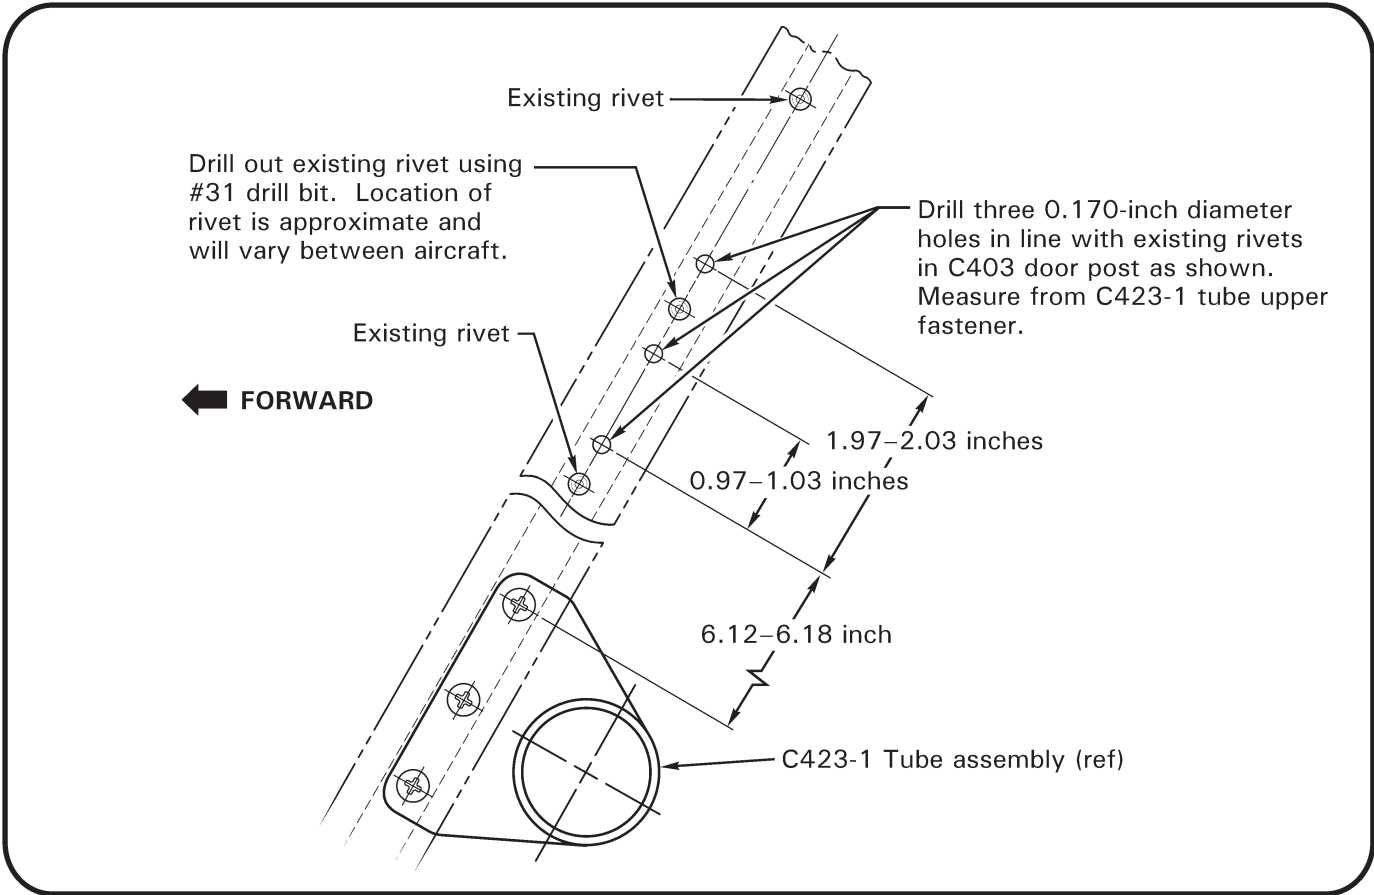
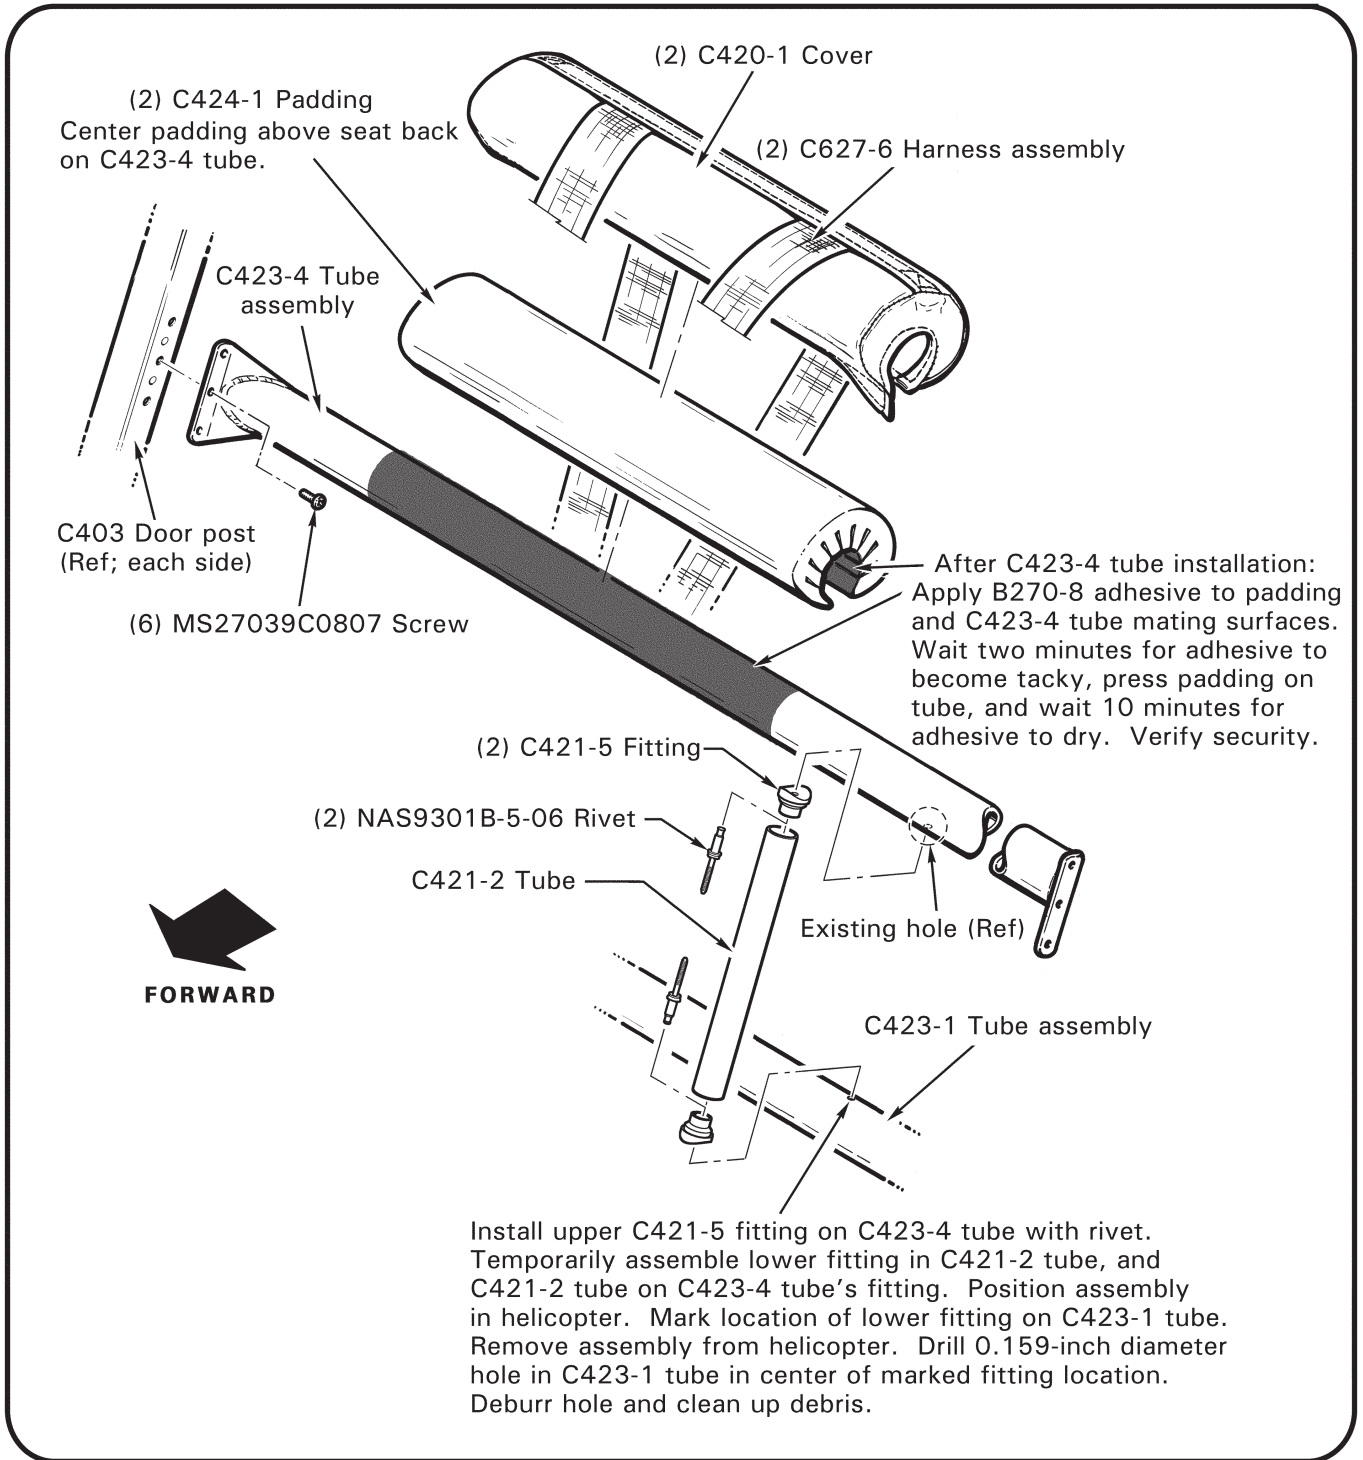
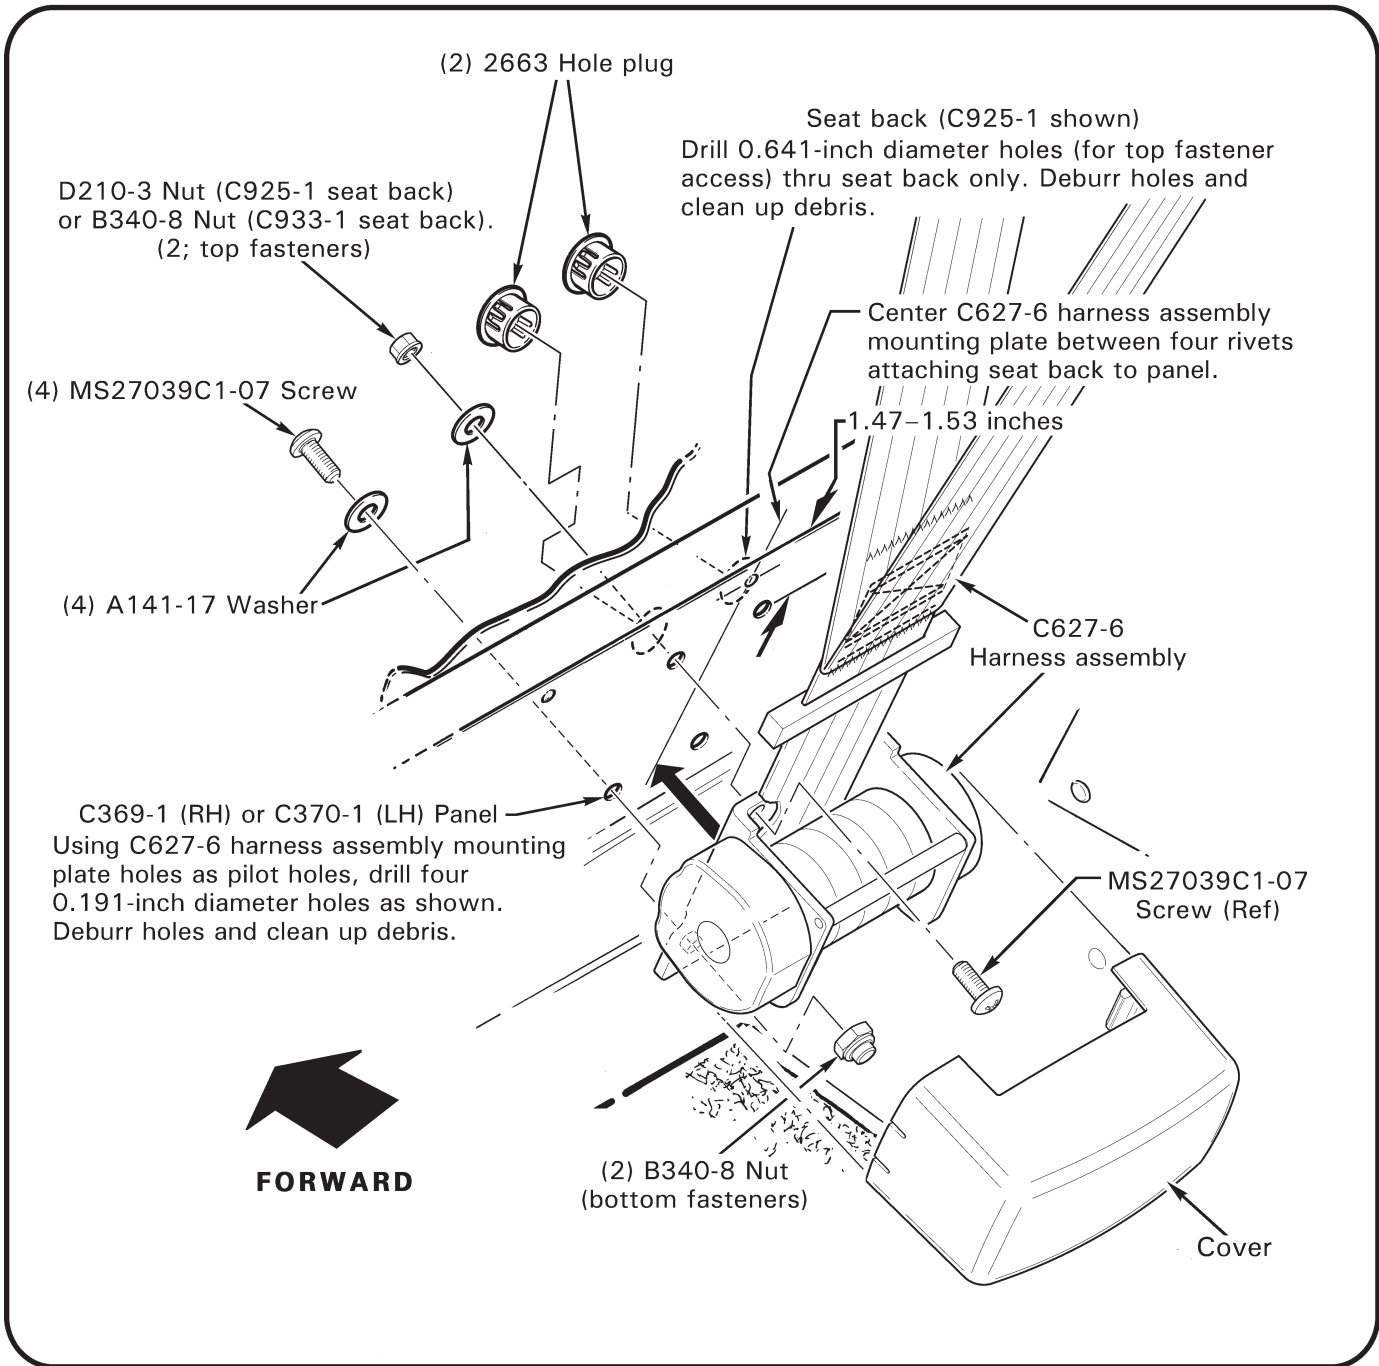

FIGURE 2
FIGURE 3
FIGURE 4
- a. Refer to Figure 2. Drill (3) 0.170-inch diameter holes thru C403 door post as shown. Using #31 bit, drill out existing rivet, leaving 0.128-inch diameter hole thru post as shown. Deburr holes & clean up debris.
- d. Install (2) MS27039C0807 screws in top and bottom post and channel holes. Remove center screw and tighten top and bottom screws. Drill 0.128-inch diameter holes thru channel as shown. Countersink 0.128-inch diameter holes 100° X 0.225-inch diameter hole thru channel as shown and install (2) NAS9302B-4-03 rivets. Remove screws and clean up debris.
- a. Refer to Figure 3. Locate existing hole on the bottom in the center of C423-4 tube. Attach (upper) C421-5 fitting to tube using NAS9301B-5-06 rivet.
- d. Center (2) C424-1 paddings above seat backs on C423-4 tube, and mark locations. Remove paddings. Apply B270-8 adhesive to padding and tube mating surfaces. Wait for adhesive to become tacky (at least 2 minutes), then press paddings to tube. Wait 10 minutes for adhesive to dry, then verify padding security.
- a. Refer to Figure 4. Remove C627-6 harness assembly inertia reel cover. Using reel’s mounting plate holes as pilot holes, drill (4) 0.191-inch diameter holes thru C370-1 (LH) and C369-3 (RH) panels as shown. Deburr holes & clean up debris.
- b. If C925-1 seat backs are installed, drill (2) 0.641-inch diameter holes thru C925-1 seat back as shown. Deburr holes & clean up debris.
6. **Four-point to five-point harness:** Refer to Figure 3. Detach hook & loop tape securing C420-1 covers around paddings. Remove covers.
7. Refer to Figures 3 & 4. Perform the following on LH and RH sides of helicopter: Remove C627-6 harness assembly inertia reel cover (if not previously accomplished) and slide reel thru strap in C420-1 cover. Install hardware securing reel to C370-1 or C369-3 panel and verify reel security. Standard torque fasteners per MM § 23-32 and torque stripe per MM Figure 2-1. Install (2) DP-625 (or 2663) hole plugs in C925-1 seat back, if applicable. Install reel cover.